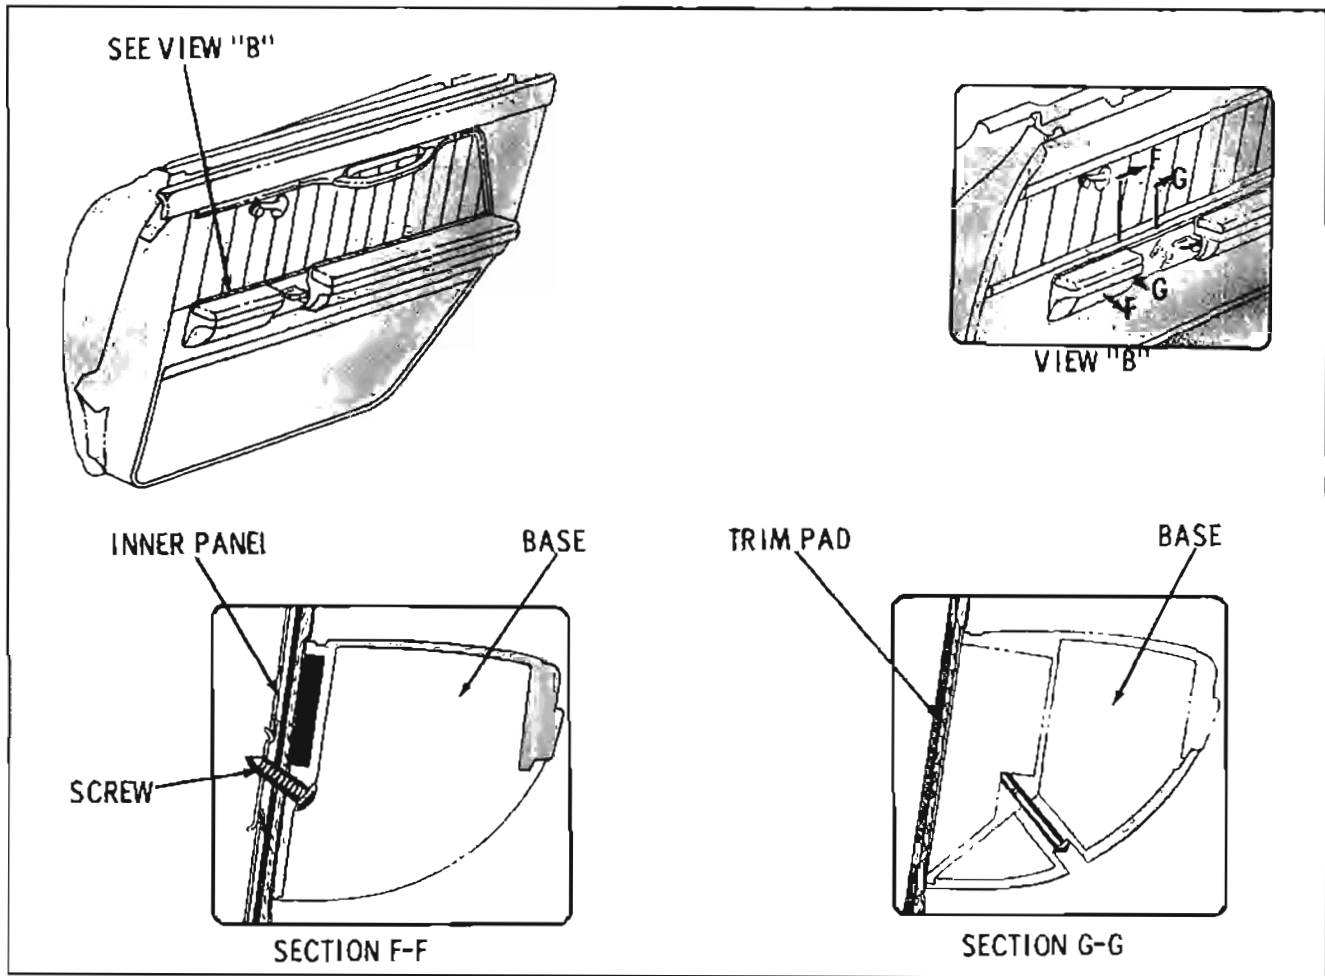

Fig. 16-28 Door Switch Mounting Base
2. To install, reverse removal procedure. The switch mounting base attaching screw holes should be sealed with body caulking compound prior to installation. (View "B" and Sections "F-F" and "G-G" in Fig. 16-28)